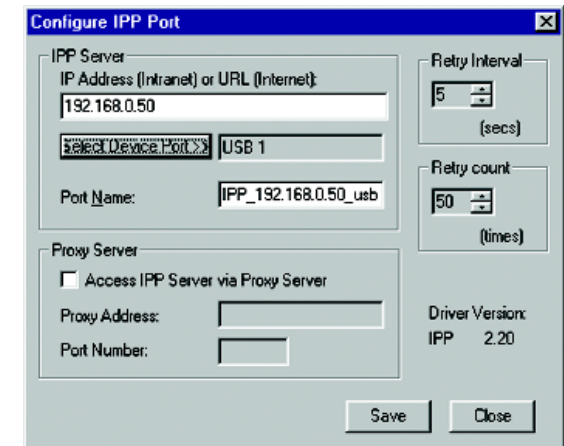

Figure 7-3: Configure IPP Port
3. Click the Port Settings or Configure Port button (Details or Port tab, depending on your version of Windows). The Configure IPP Port screen (shown in Figure 7-3) will appear.